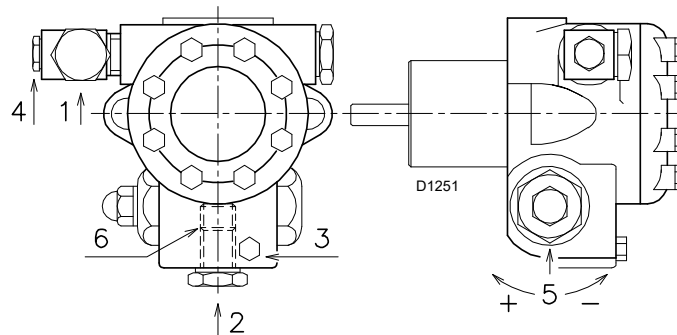

Fig. 21
The pumps are equipped with a by-pass that connects return line with suction line. They are installed on the burner with the by-pass closed by screw 6)(Fig. 21). It is therefore necessary to connect both hoses to the pump. The pump will break down immediately if it is run with the return line closed and the by-pass screw inserted.
- In order for self-priming to take place, the screw 3) of the pump must be loosened, see Fig. 21, to bleed off the air contained in the suction pipe.
- The pump can be considered primed when the light oil starts coming out of the screw 3)(Fig. 21). Stop the burner: set switch 1)(Fig. 25, on page 23) to "OFF" and tighten the screw 3).
Key (Fig. 21)